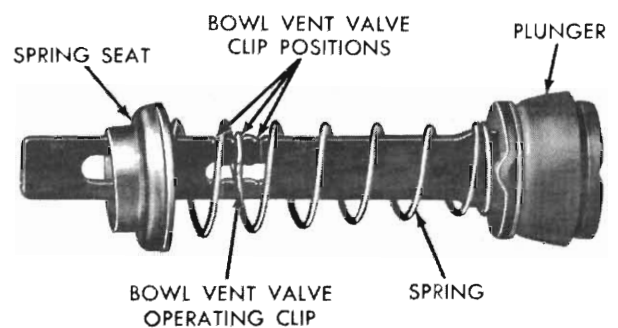

Fig. 10 - Accelerator pump assembly
(1) Assemble the pump plunger, spring and spring seat, as shown in (Fig. 10). Slide plunger shaft through opening in air horn. Install bowl vent valve over plunger shaft, then engage with pump rocker arm.